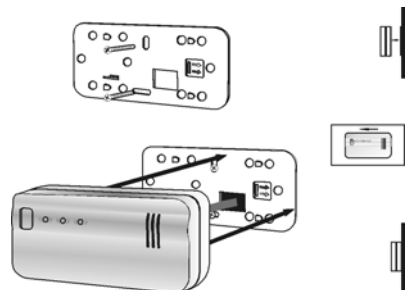

Figure 3: Mounting the Detector
1. Remove backplate from the rear of the detector as shown in Figure 3.